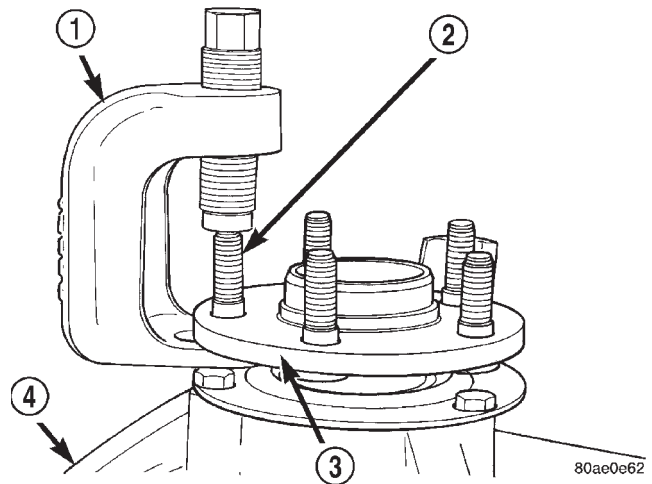
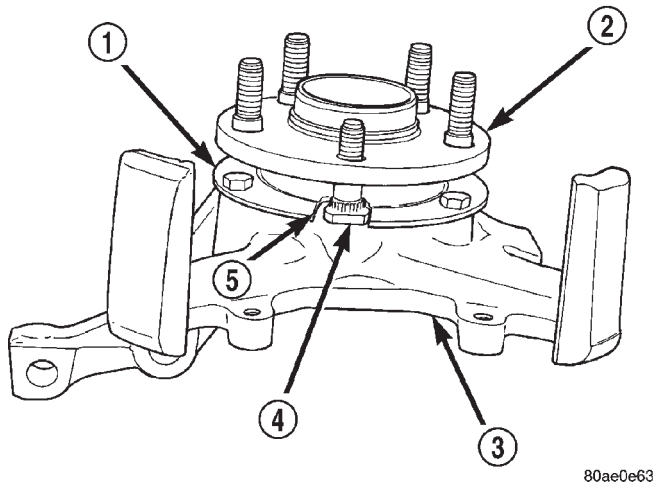

Fig. 29 Pressing Out Wheel Mounting Stud
Fig. 30 Stud Removal From Hub
(1) Remove steering knuckle, hub, and wheel bearing as an assembly from the vehicle. Refer to STEERING KNUCKLE in the REMOVAL AND INSTALLATION section in this service manual group.
(2) Using Remover, Special Tool 4150A, (Fig. 29) press one wheel mounting stud out of hub flange. Rotate the hub to align the removed wheel mounting stud with the notch in bearing retainer plate (Fig. 30). Remove the wheel mounting stud from the hub.